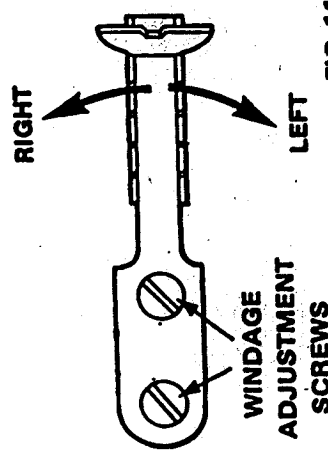

FIG. 11
4. If your shots are going to the right, move it a little to the left and tighten the two screws. (Fig. 11)